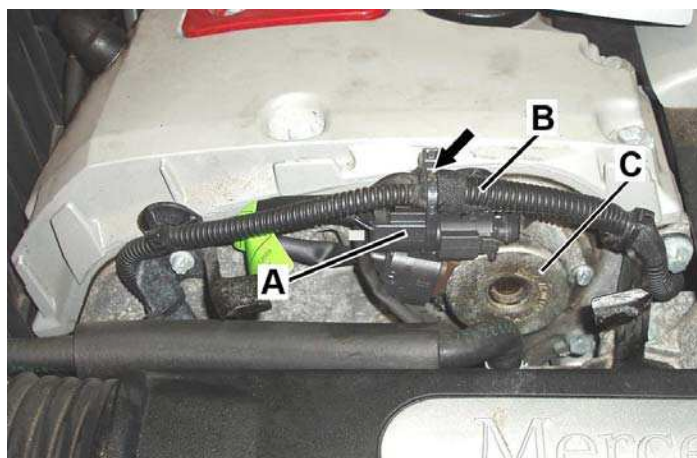

Figure 2
- Connect adapter harness between connector on camshaft solenoid (C, Figure 2) and engine harness
- Secure adapter harness connector (A, Figure 2) to engine harness sheath (B) with cable tie (arrow).